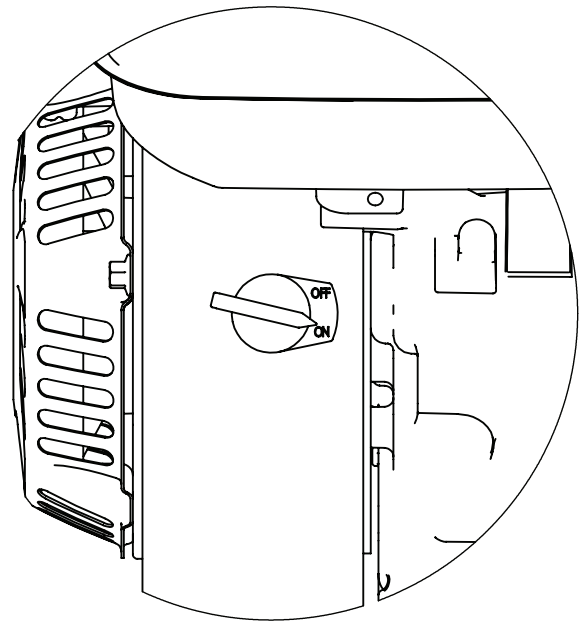

Figure 6
7. Turn the On/Off switch to the ON position. **SEE FIGURE 6.**